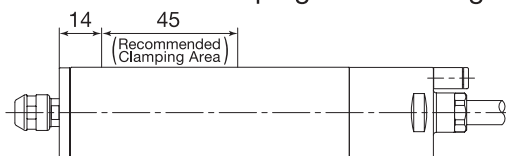

Fig. 12
- When mounting the spindle avoid the area where bearings are located. If the spindle is mounted inappropriately, this will cause damage to the spindle. (Refer to the recommended clamping area drawing in Fig. 12)